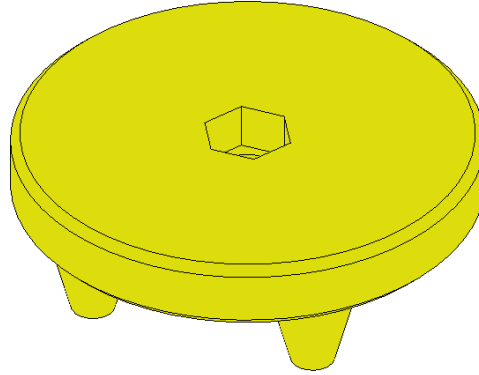

Figure 1: *Component 0* of a ground support element.
1. Focus on the *component 0* part which is shown on figure 1. You will find a hole through the part and a slot to accommodate a M7 screw nut. Put the M7 screw nut in the slot and then screw in a M7 screw from the bottom of the part. This assembly will be used later.